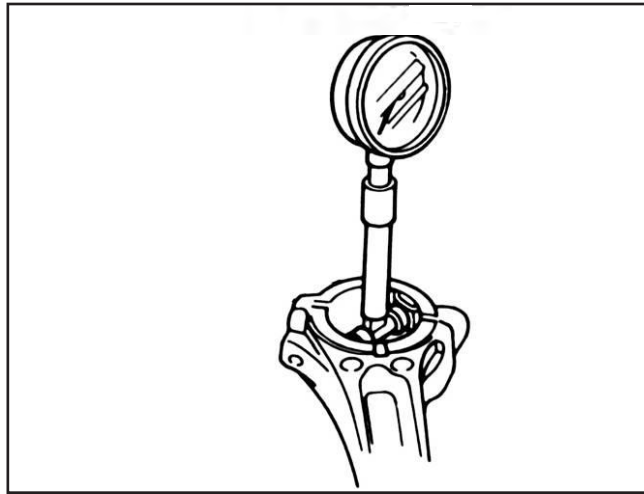

Figure 21
3. Crankshaft end inside diameter, measure and compare to specifications (Figure 21).